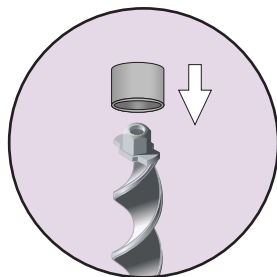

Fig 2.
3. Place the hammer cap over the anchor before hammering. (Fig 2)